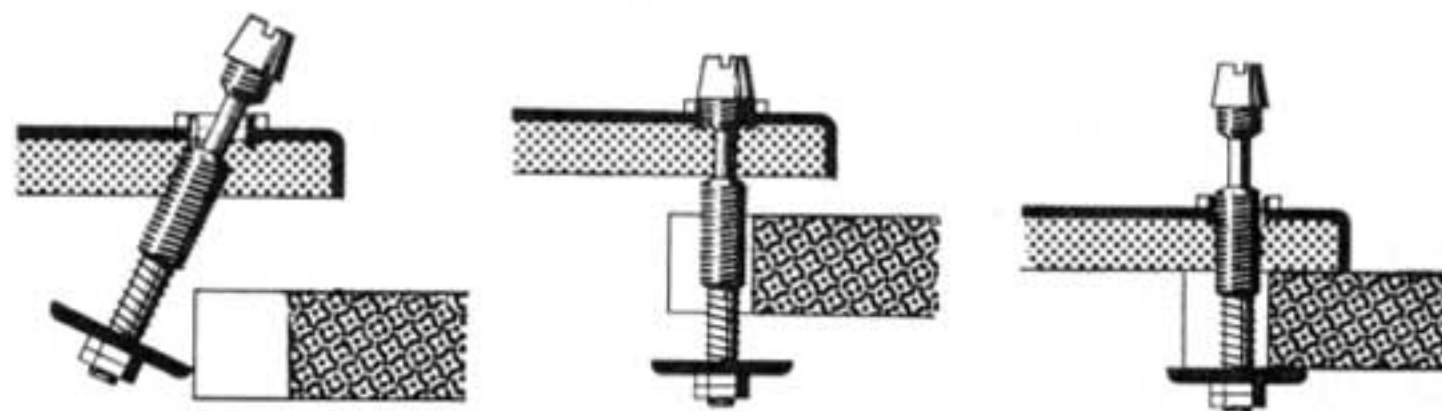

Fig. 16
1. Position the chassis over the base so that the three cupped spring-mounted footings will fit into their cut-outs. (The notch on the base for the rear top/mount spring screw will then be at the upper left.) Tilt both mounting screws to let them slip past the notches as you lower the chassis (Fig. 16 a).
2. Turn each screw clockwise until it is firmly seated into the top of the chassis (Fig. 16 b). That's all there is to it. To remove the Dual, simply reverse the above procedure.
1. Loosen both top/mount spring screws, depress the chassis against the base, then continue to turn each screw counter-clockwise until it stops. The chassis will then be locked firmly against the base (Fig. 16 c).